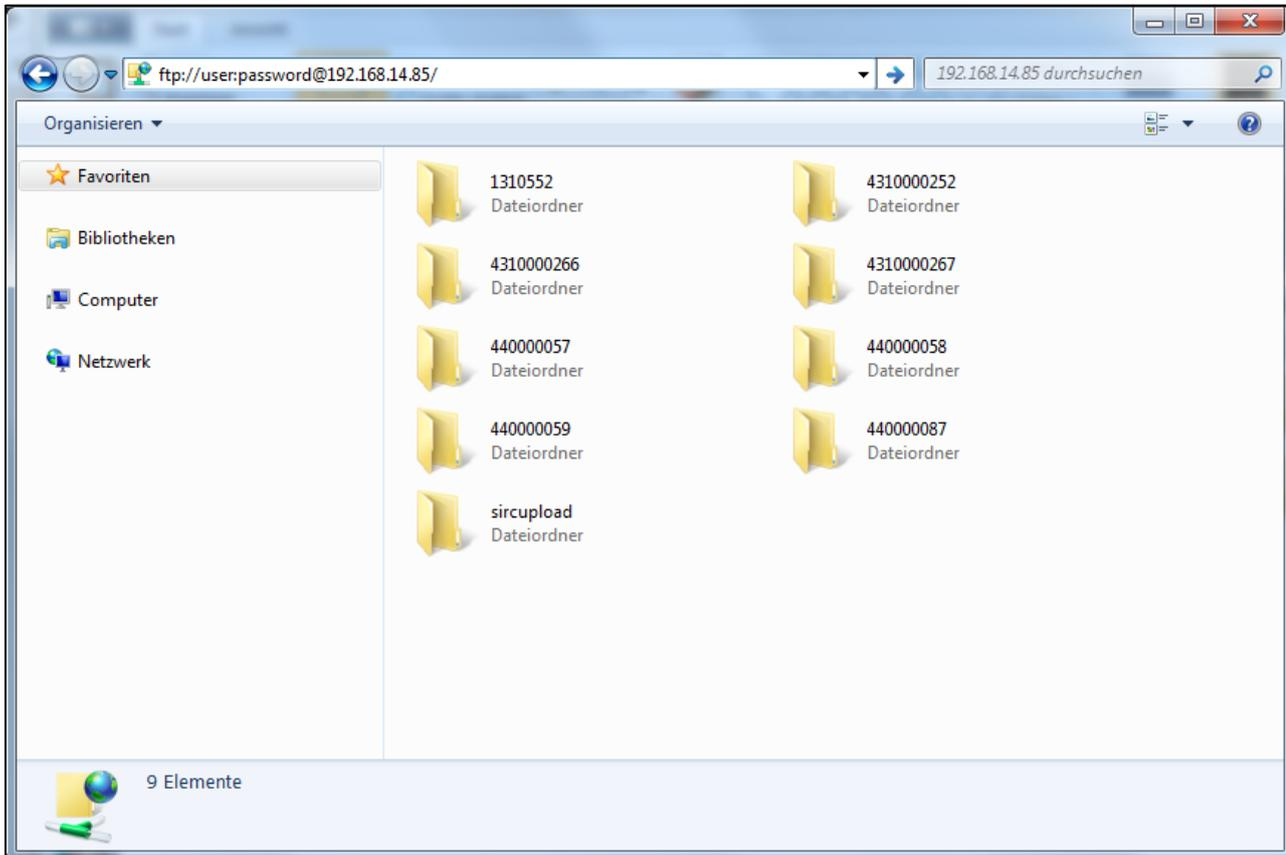

Figure 39: SIRC FTP-Windows Explorer
3. Alternatively open the link <ftp://user:password@192.168.14.85/> to accede your FTP directory structure (see Figure 39).